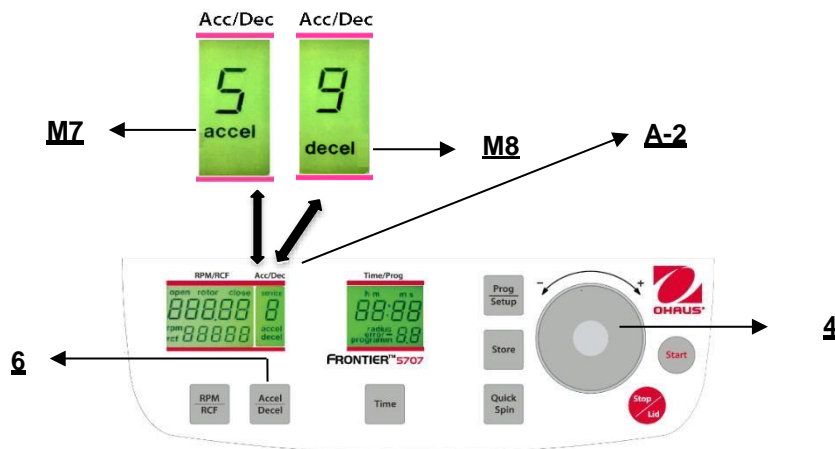

Figure. 18
This function is activated through the key **"Accel/Decel"** (6) (refer to figure 18).